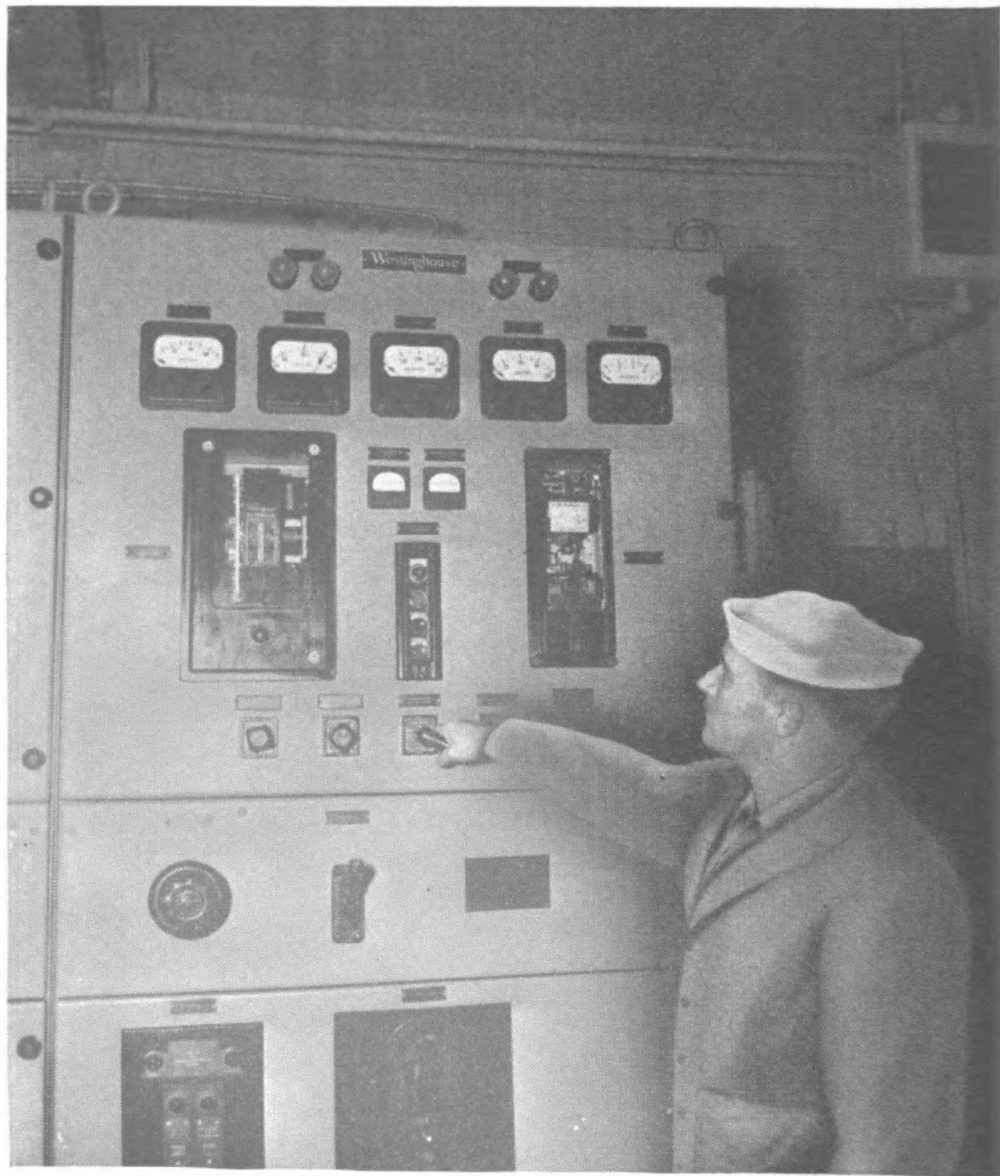

Figure 9-33.—Adjusting the frequency.
10. Check the frequency by means of the frequency meter and raise or lower the prime mover's speed, as necessary, by means of the governor motor control switch until normal frequency (60 cycles) is obtained (fig. 9-33).